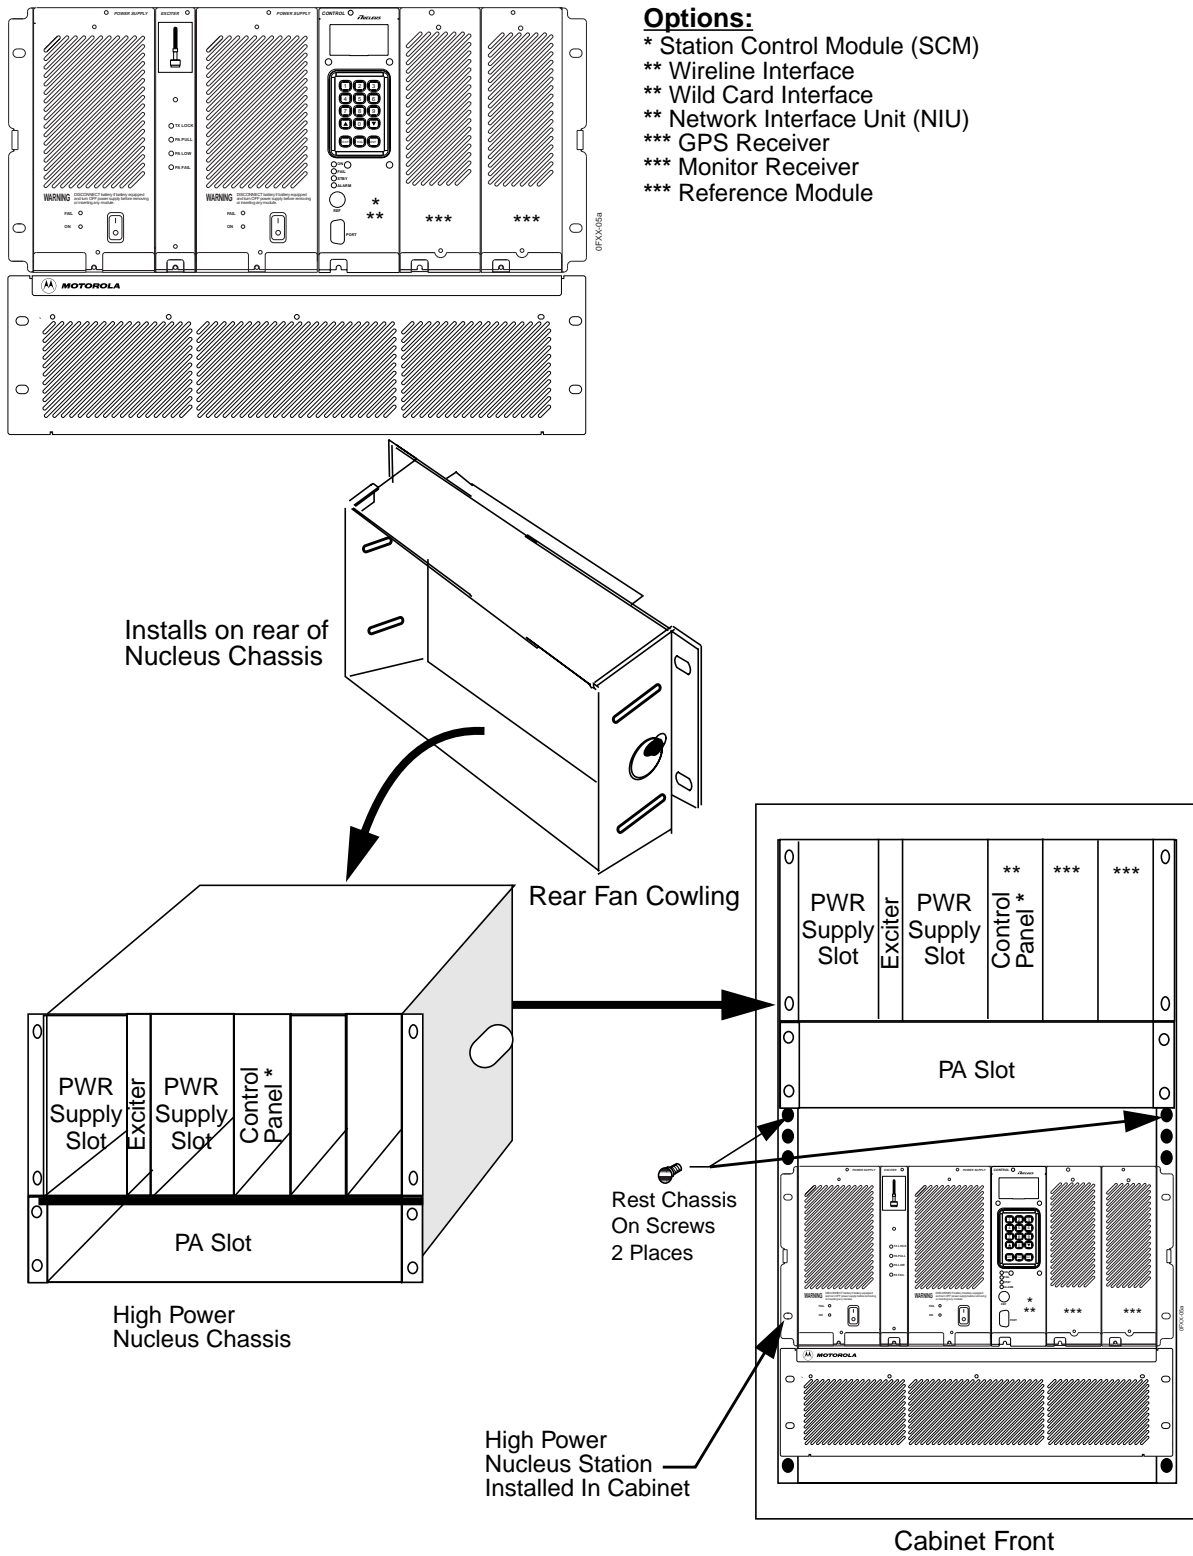

Figure 4-10: Installing High Power Station in a Cabinet
Install the station in a standard size 19 inch cabinet as follows (see Figure 4-10).
3. Install the Chassis in the cabinet as follows (see Figure 4-10):
- b. Insert an M6x1.0 tapping screw (supplied) into each front rail of the cabinet at the lower of the two holes where the chassis is to be installed (see Figure 4-10).
- d. Carefully lift the station chassis and position the chassis in the cabinet so it rests on the two screws installed in above (see Figure 4-10).
- f. Insert four M6x1.0 tapping screws (two on each side), using a TORX screwdriver and TX 30 bit (see Figure 4-10).
- d. Secure the PA in place with four M6x1.0 tapping screw (supplied) using a TORX screwdriver and TX 30 bit (see Figure 4-10).
- e. Reinstall the two power supplies in the original location and secure with original TORX screws using a TORX screwdriver and TX 15 bit (see Figure 4-10).
- f. At the rear of the cabinet, place the rear fan cowling in position on the chassis and secure in place with four M6x1.0 screws using a TORX screwdriver and TX 30 bit (see Figure 4-10).